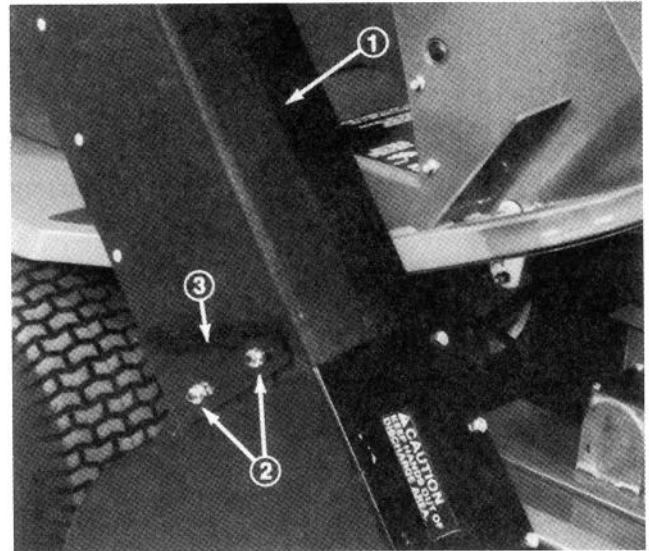

Figure 16
2. Slide chute over blower opening and into mounting studs (Fig. 16).
3. Lower hopper hood and align chute with hood snout. Secure chute in position with lock nuts and brackets. Wide end of brackets to be positioned toward rear (Fig. 16).